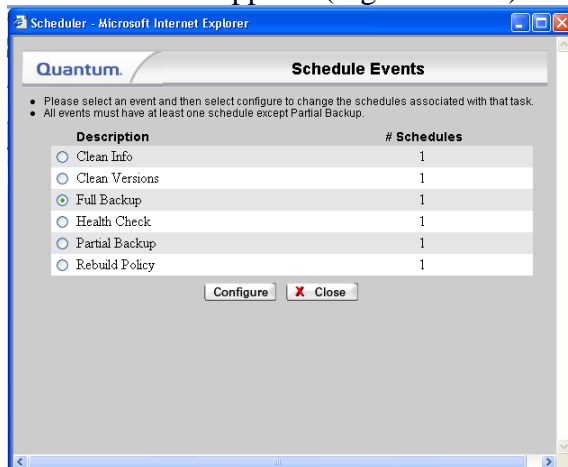

Figure 14.6-4. Feature Schedules Screen
- The **Feature Schedules** screen appears (Figure 14.6-4).